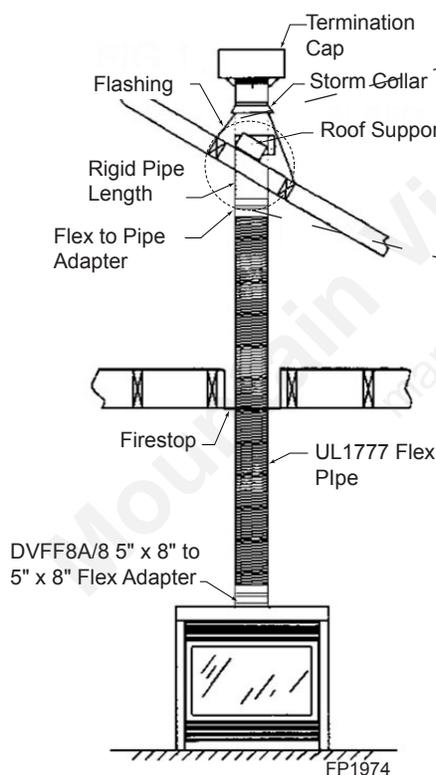

Figure 43 - Typical Vertical Flex Vent Installation
2. Install firestop spacers, *Figure 43*, when penetrating ceiling, attic spaces, or walls.
4. Use only listed and approved terminations and accessories, installed per the installation instructions and *Figure 43*.